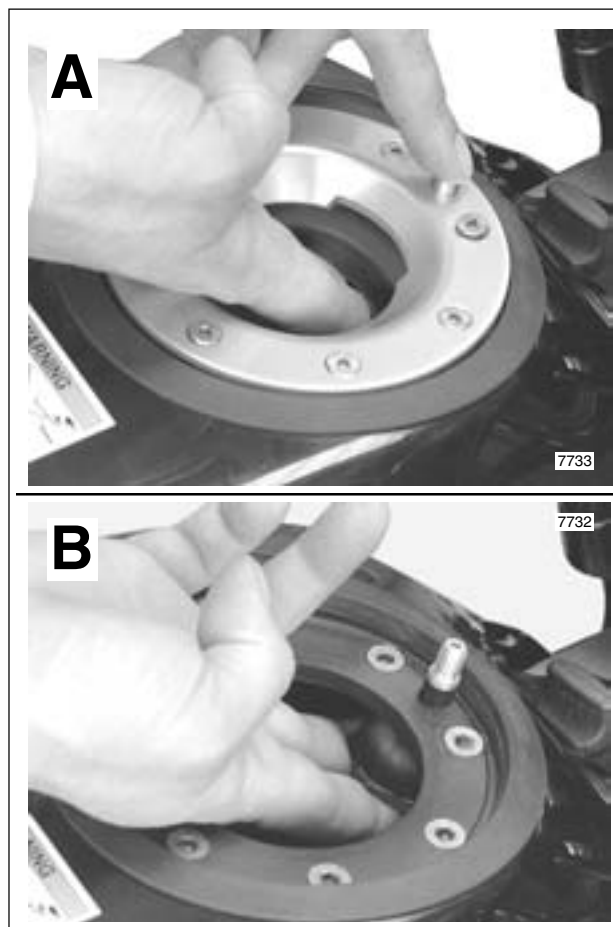

Figure 4-8. Remove Rollover Valve
8. Keeping fingers at bottom of rollover valve, push on threaded end to remove from holes in fuel cap flange and boot. See A of Figure 4-8. Remove fuel cap flange and boot from fuel tank.
9. Maintaining hold of rollover valve, remove from hole in fuel tank. See B of Figure 4-8. Exercise caution to avoid dropping valve into fuel tank.
3. Holding rollover valve in a vertical position with the threaded end at the top, insert into filler neck pushing threaded end up through hole in fuel tank. See B of Figure 4-8. Exercise caution to avoid dropping valve into fuel tank.